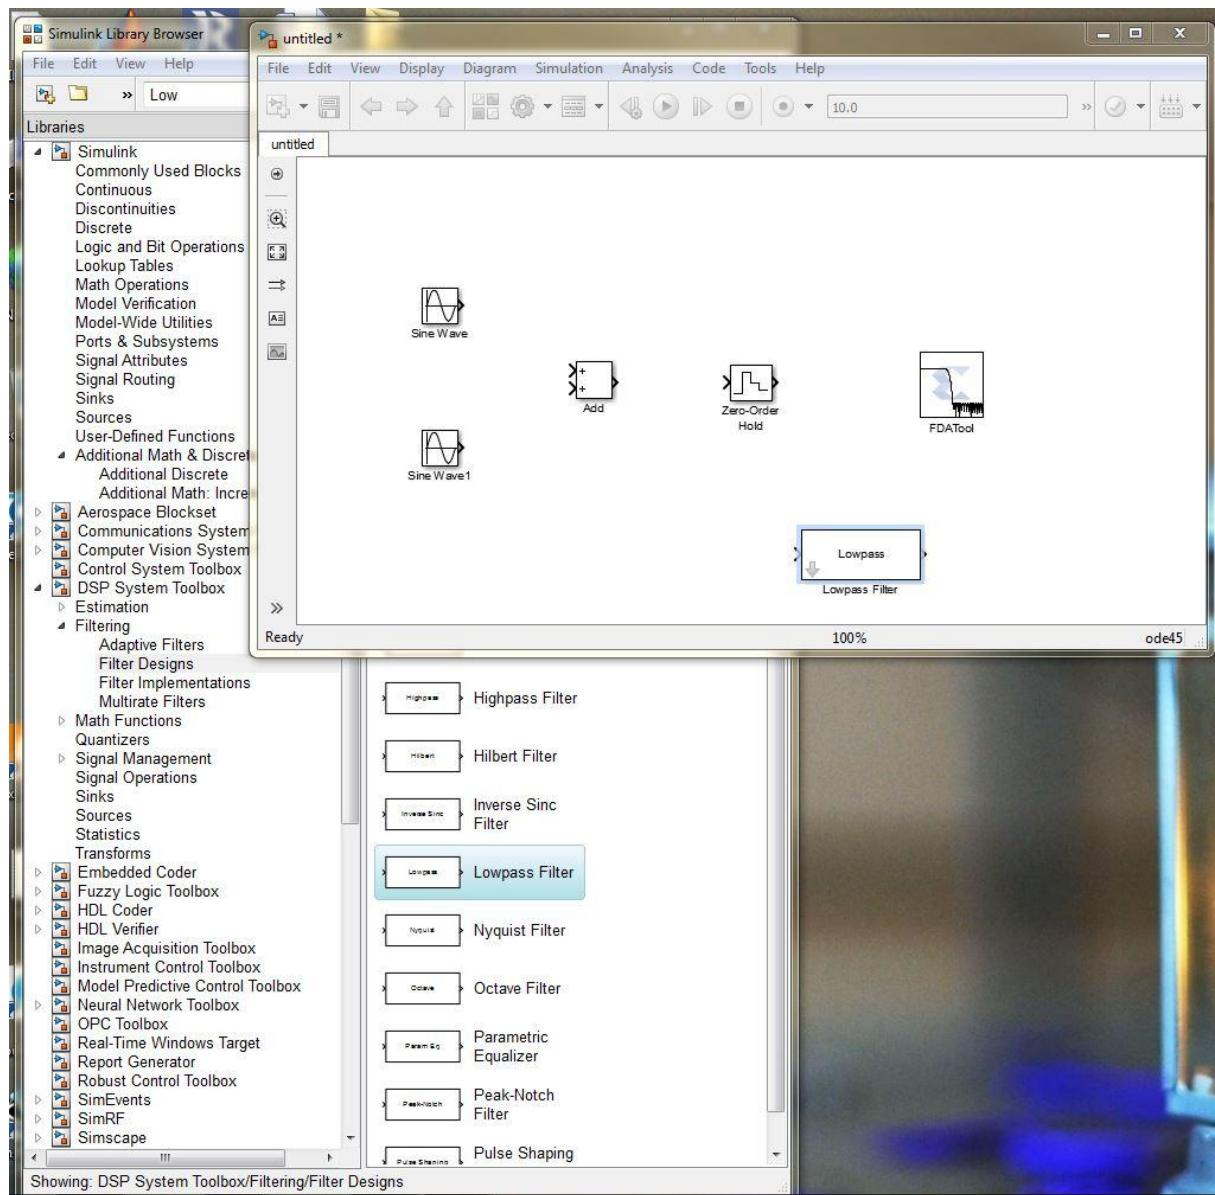

Figure 6: Addition of Low Pass Filter.
7. Add Low Pass Filter: *DSP System Toolbox* > *Filtering* > *Filter Designs* > *Low Pass Filter* as shown in figure 6.